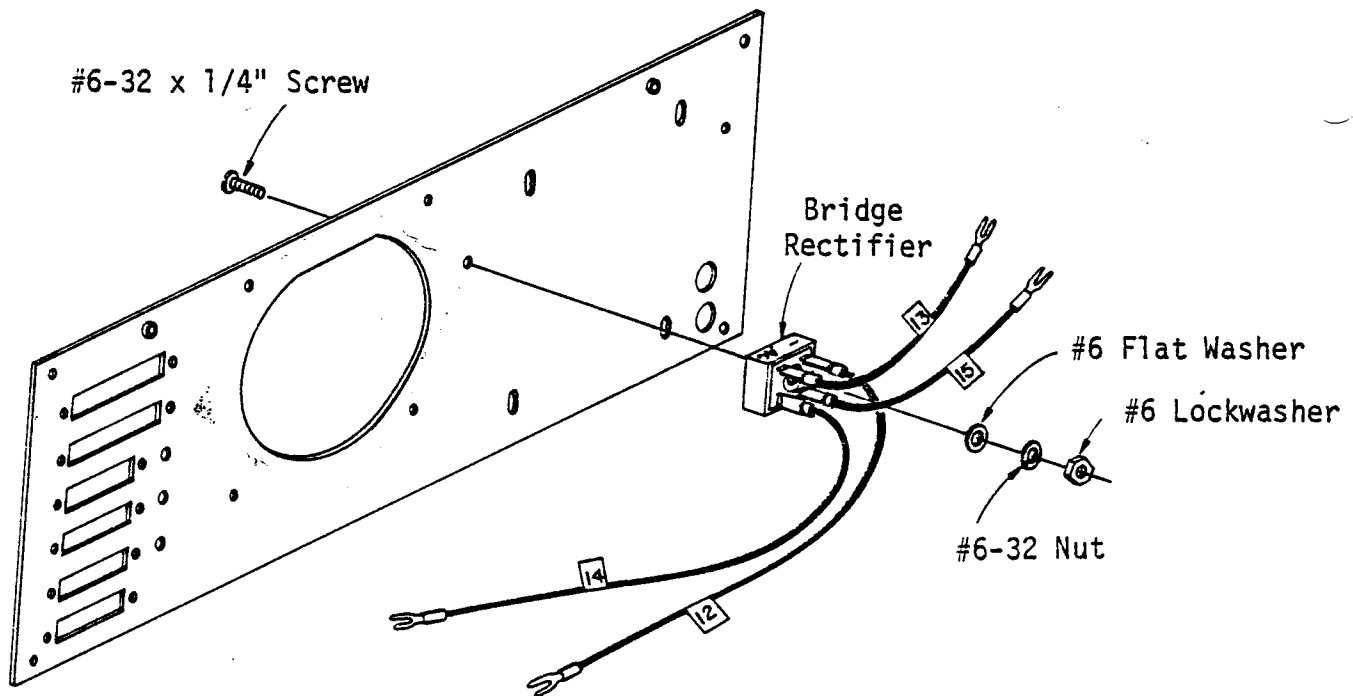

Figure 5-51. Bridge Rectifier Installation
5-60. BRIDGE RECTIFIER INSTALLATION (Figure 5-51)
Use the following instructions to wire the bridge rectifier (Bag 1) and mount it to the back panel as shown in Figure 5-51. The bridge rectifier is part number KBH25005.
4. Slip the A size terminal ends onto the bridge rectifier terminals as shown in Figure 5-51. Attach the two 5-inch wires to the "AC" terminals and use masking tape to label them 13 and 15. Attach the two 19-inch wires to the "+" and "-" terminals and label them 14 and 12 respectively.